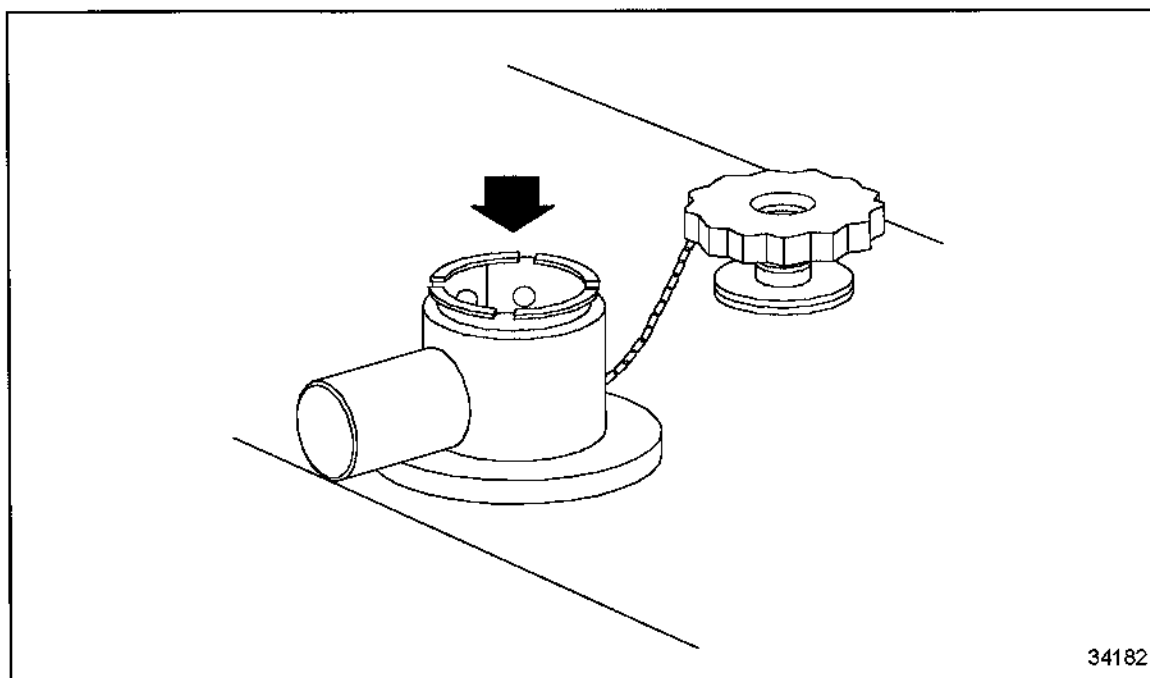

Figure 31 Pressure Cap Stop
1. Turn pressure cap counterclockwise to first stop (arrow). See Figure 31.